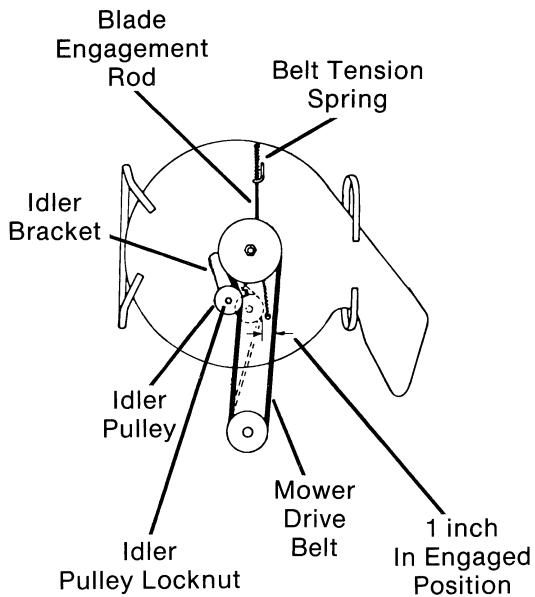

FIG. 18
- Looking through the slot, at the rear of main frame between support bars, towards front of rider. Check minimum clearance between the two sides of mower drive belt. (Fig. 18)
- B. Detach blade brake spring from blade engagement rod at idler bracket. (Fig. 18)
- C. Remove locknut holding idler pulley to idler bracket. (Fig. 18) Remove idler pulley and mower drive belt.